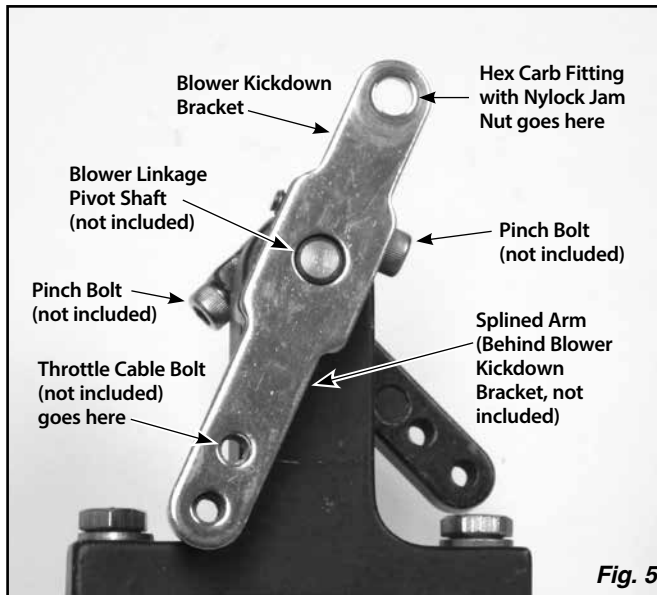

Fig. 5
Step 10: Install the blower kickdown bracket onto the splined arm on the blower throttle linkage, with the two holes at the bottom. The blower kickdown bracket is positioned by the blower linkage pivot shaft and attached using the throttle cable bolt. If the blower linkage pivot shaft does not protrude out far enough to align the blower kickdown bracket, it will be necessary to adjust the position of the splined arms on the pivot shaft by loosening the pinch bolts and repositioning parts as needed. **Fig. 5**